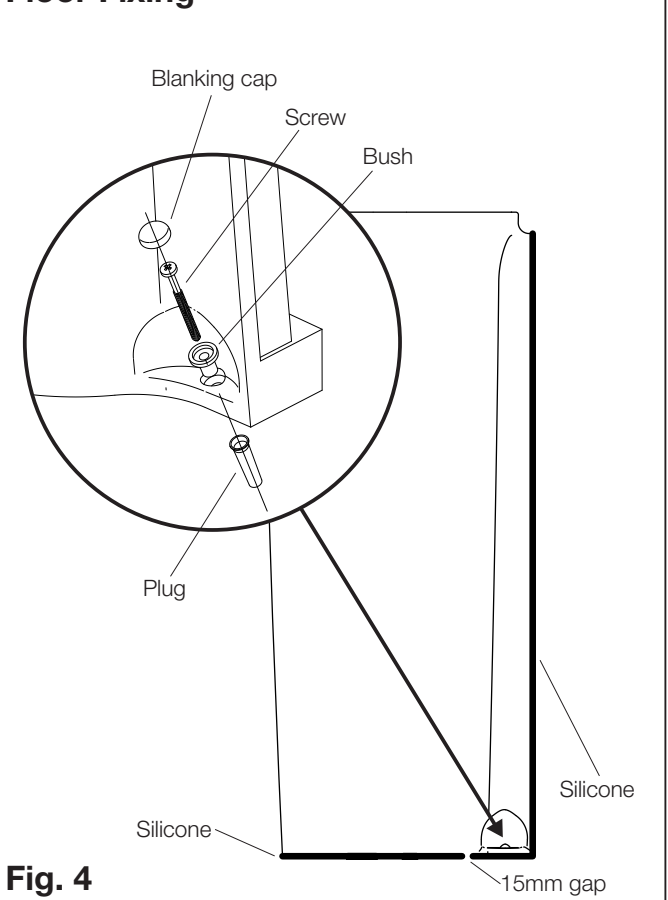

Fig. 4
6. Ensure the plugs fitted in the floor are aligned with holes on the basin. From the fixing kit, fit the two bushes into the basin fixing holes, insert the screws and tighten, as detailed in Fig. 4. **IMPORTANT: OVERTIGHTENING THESE SCREWS MAY CRACK THE BASIN.** Then fit the two blanking caps over the screws.
7. Run a bead of acetic cured silicone sealant around the foot and back of the basin, leaving a 15mm gap in an inconspicuous position around the base for leak detection, as detailed in Fig. 4. Remove spacers and fill gaps with silicone sealant.